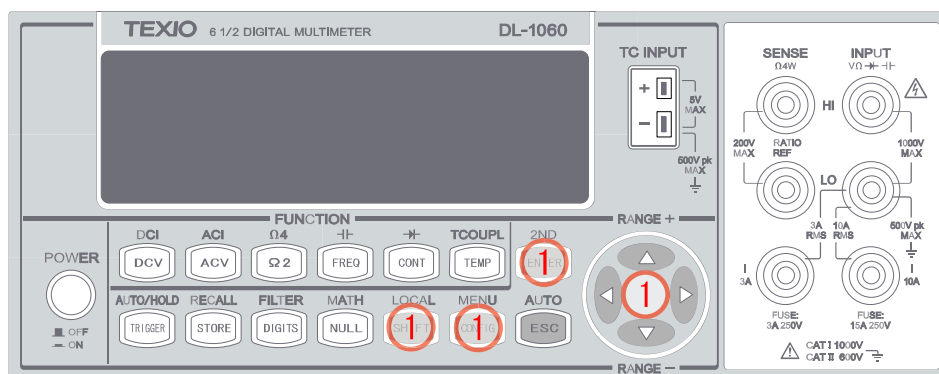

Figure 3-37
1. Do the procedure SHIFT + CONFIG > SYSTEM > ENTER > LANGUAGE > ENTER > DEFAULT/COMPATIBLE > ENTER to select the language as shown in **Figure 3-37**.